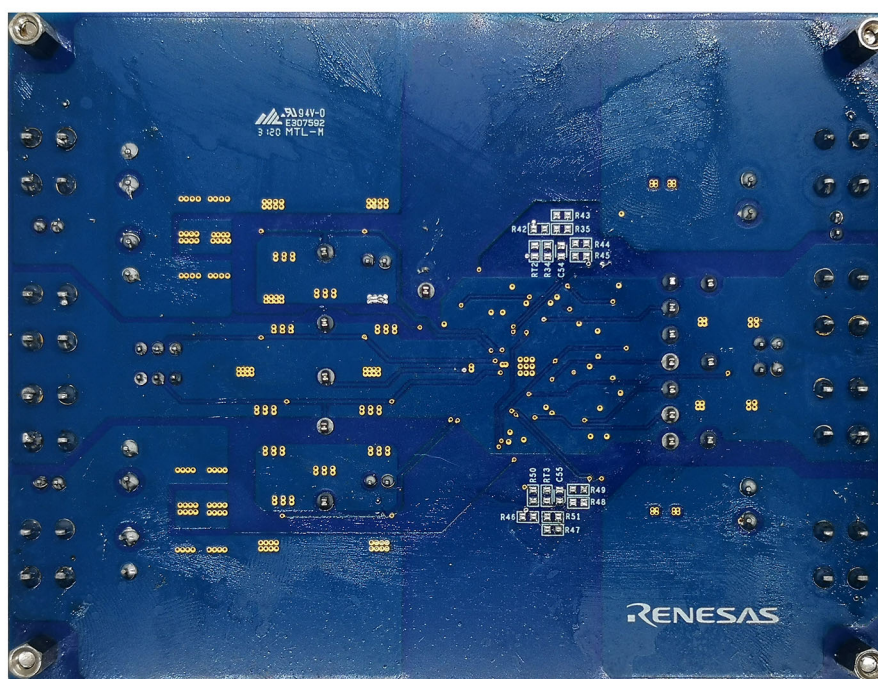

**Figure 3. Proper Test Setup**
As shown in Figure 3, the 9V to 36V  $V_{IN1}$  is supplied to J1 (+) and J2 (-). The regulated 48V output  $V_{O1}$  is on J4 (+) and J5 (-). Because of the high-power efficiency, Channel 1 can run at 3A continuously without airflow at ambient room temperature conditions. The 9V to 20V  $V_{IN2}$  is supplied to J20 (+) and J21 (-). The regulated 24V output  $V_{OUT2}$  is on J17 (+) and J16 (-). Because of the high-power efficiency, Channel 2 can run at 5A continuously without airflow at ambient room temperature conditions.
1. Jumper J6 provides the option to select PWM or DEM. Jumper J7 provides the option to select a constant current limit or HICCUP. See Table 2 for the operating options. Ensure that the circuit is correctly connected to the supply and electronic loads before applying any power. See Figure 3 for the proper setup.